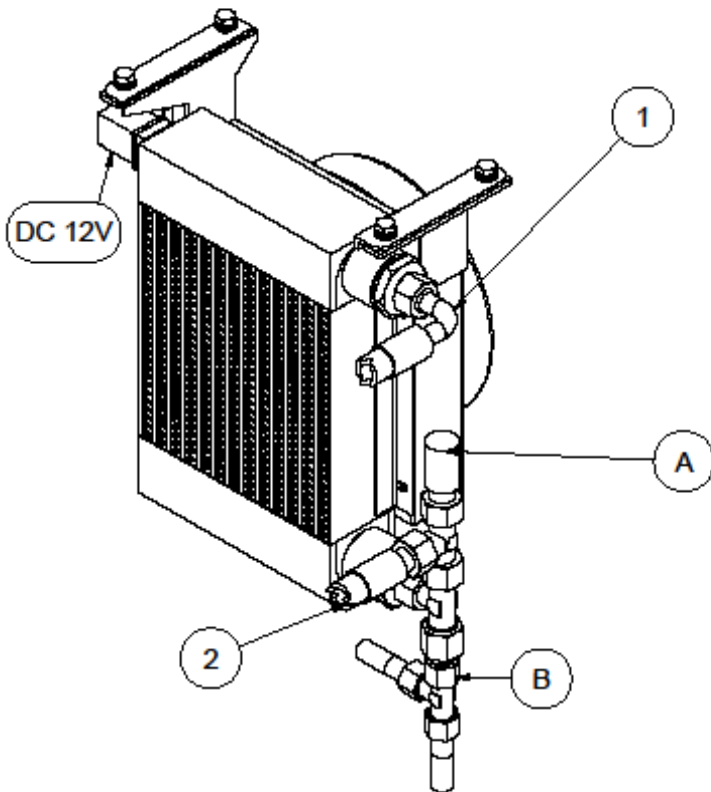

Figure 4 Cooler
4. Connect A and B on the cooler (Figure 4) Be sure to insert the small washer.
5. Connect hose 1 and 2 from cooler to tank (Figures 4 and 5).